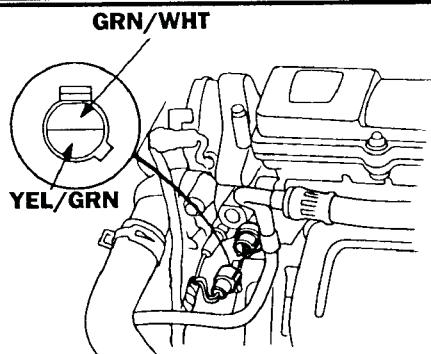

Figure 8.
The **WaterTemperature Sensor (TW)** on the engine also sends information to the A/T controller to modify shift strategy. It should read approximately 200 - 400 ohms resistance across the terminals with the engine warmed up and the connector disconnected. With the key on and the connector disconnected there should be about 5 volts across the wire harness connector going to the Water Temperature Sensor. See Figure 8.